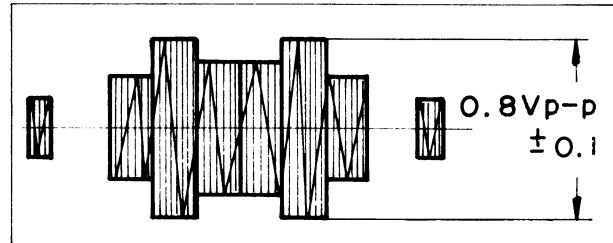

Fig. 5-68. ACC output waveform
- Set the VTR at the recording mode and verify that the output waveform is 0.8 volt p-p  $\pm 0.1$ , as shown in Fig. 5-68.